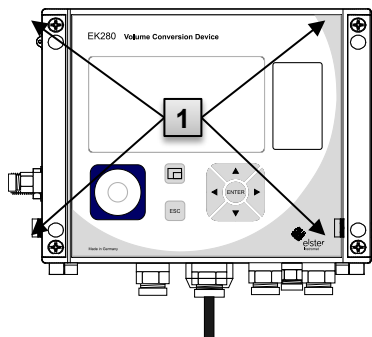

Fig. 29
2. Loosen the four screws Fig. 29: **1** which are keeping the housing closed
10. Close the housing using the screws provided (Fig. 29: **1**).